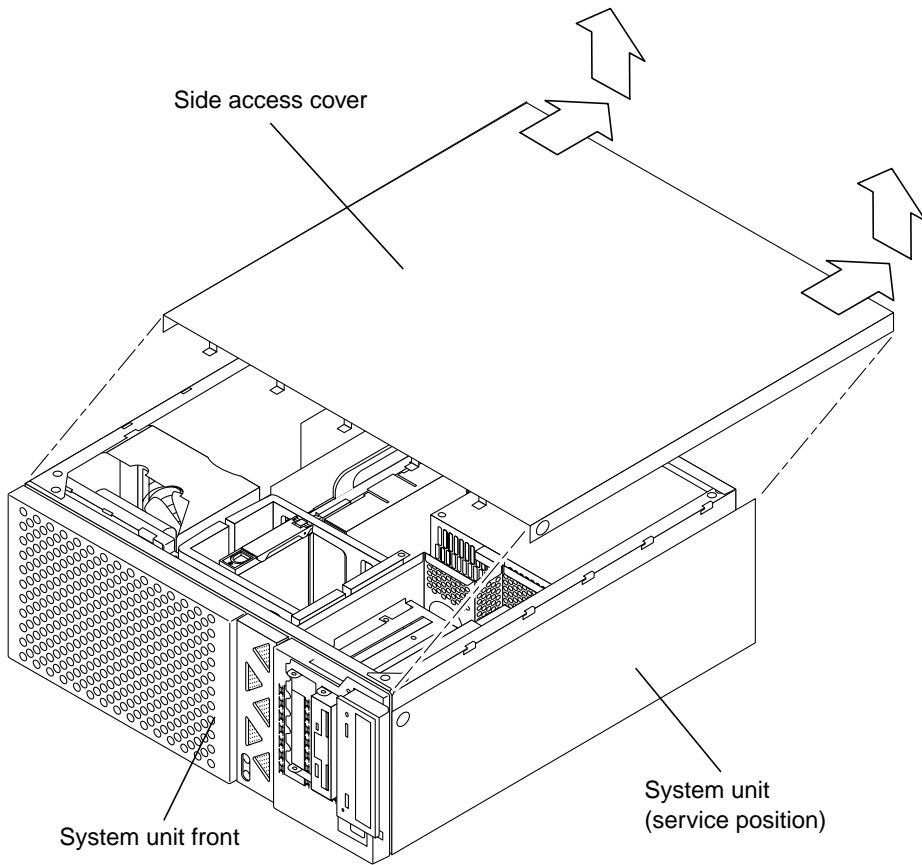

FIGURE 1-4 Removing the Side Access Cover
3. Remove the side access cover as follows (FIGURE 1-4):